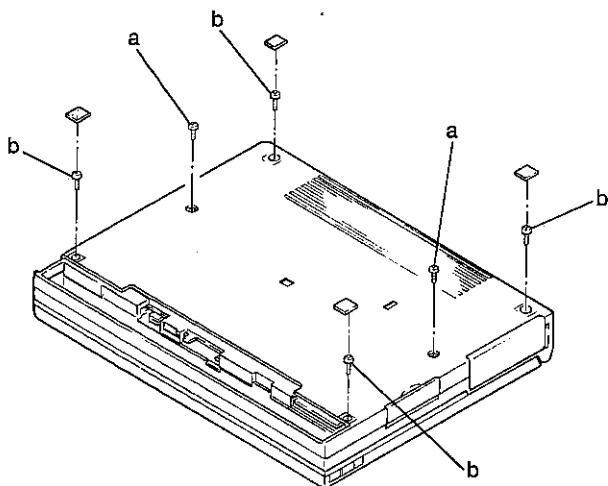

Fig. 2-1
- 1) With the LCD section closed, remove the two black screws at the bottom. (Fig. 2-1) (Screw: a)
- 5) Remove the four rubber cushions fixed to the bottom by duplex tape. Then remove the four screws which are fixing the lower cabinet and the upper cabinet. (Fig. 2-1) (Screw: b)